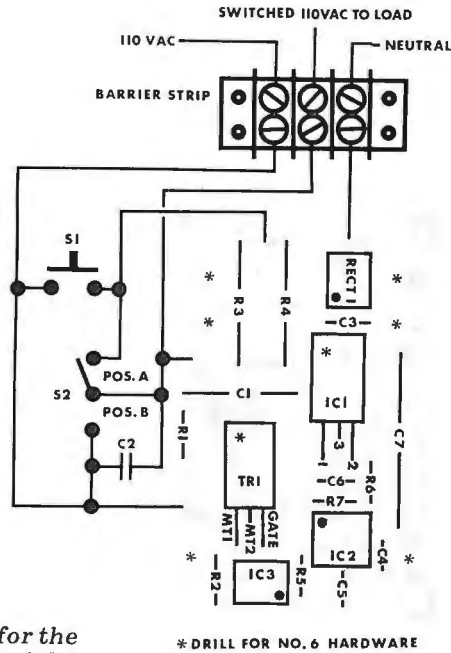

Fig. 3. Parts placement guide for the printed circuit board is shown at right.
**Installation.** Before installing the Smart Switch, be sure to turn off the power at the fuse or circuit breaker box. Remove the existing wall switch and cover plate. Then, using the parts placement diagram shown in Figure 3 as a guide, connect the existing wall-switch wiring to the Smart Switch barrier strip. You might find that a neutral wire has not been brought into the wall-switch electrical box. If this is the case, wire the neutral terminal of the barrier strip directly to the metal wall box.